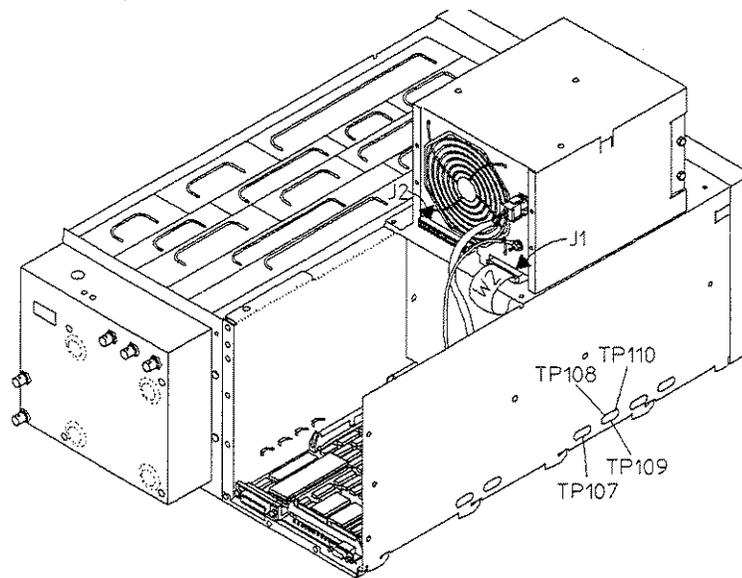

Figure 5-8. Memory Test Locations
2. Set the power switch to ON (I). Using a logic probe, check that the signals listed in table 5-7 are toggling (see figure 5-8). If the signals are toggling, the Memory assembly is probably faulty.